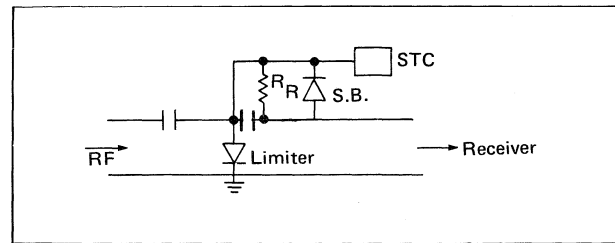

Figure 22. Passive Limiter-Dual STC Function
For various applications a limiter diode can be used to provide passive receiver protection and STC attenuator function simultaneously, as indicated in Figure 22. The Schottky diode provides a low impedance return, and the shunt resistor  $R_R$  minimizes recovery time, as will be explained in the following section.
If the limiter circuit employs a Schottky, either as a “limiter” or as a “ground return,” the Schottky recovers almost instantly, and the PIN limiter does not have a ground return — recovery time will be long. A resistor in shunt with the Schottky (Figure 22) solves this problem at the expense of either Schottky current or bias current. Design compromise may be necessary in establishing the value of this resistor. The inductance of the ground return, as mentioned earlier, influences both spike leakage and recovery time. For minimum spike the time constant (RL) of the ground return-limiter circuit must be less than the pulse rise time.
If the application involves fixed pulse lengths, the circuit of Figure 22 can be modified by replacing  $R_R$  with a large inductance, with RL (Schottky R) roughly equal to the pulse length. Initially, all Schottky current flows to the limiter and the spike is minimized; during the pulse some Schottky current flows through the choke, raising leakage power only marginally; at the end of the pulse the Schottky ceases to supply current, and the choke develops a negative  $L \frac{\Delta i}{\Delta t}$